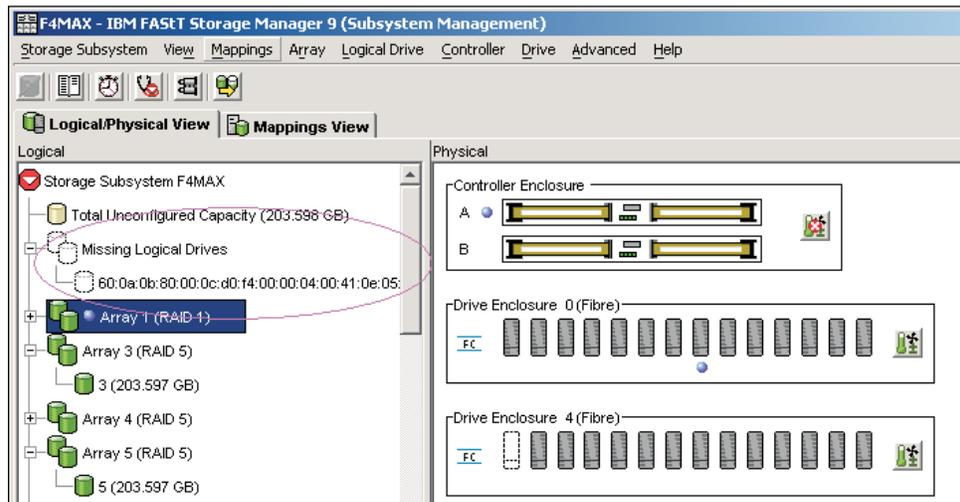

Figure 22. Subsystem Management Logical/Physical View of missing logical drives
7. Wait for the storage manager to mark the arrays/logical drives as missing in the Subsystem Management window. See Figure 22. **Do not proceed to step 8 until all of the defined logical drives in the array(s) whose drives are removed from the DS4000 enclosures display as missing.**